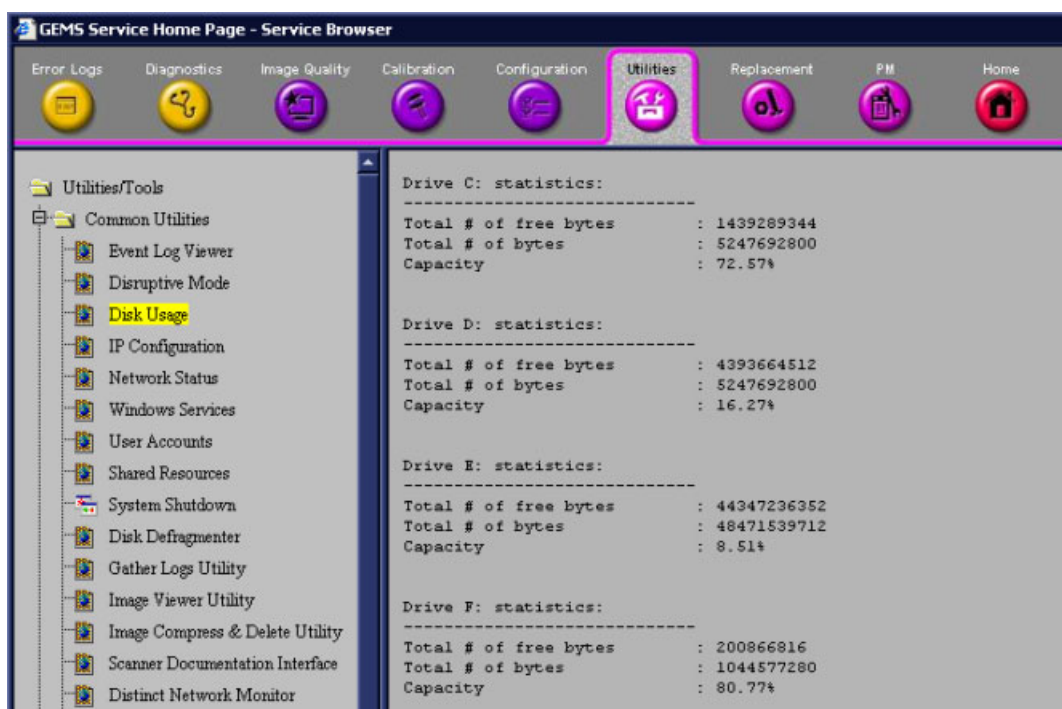

Figure 7-123 Disk Usage
- **Disk Usage** - displays available disks and their utilization in the system - see Figure 7-123.